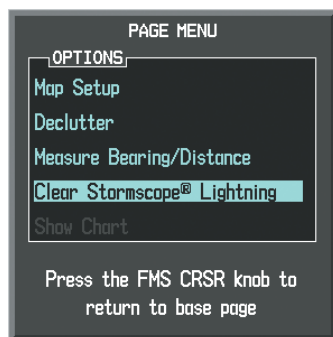

Figure 6-49 Navigation Map Page Options Menu
- 2) Select 'Clear Stormscope® Lightning' (Figure 6-49).
At a map range of less than 25 nm, Stormscope lightning data is not displayed, but can still be present. The presence of Stormscope lightning data is indicated by the annunciation 'LTNG < 25 nm' in the upper right corner (Figure 6-49).